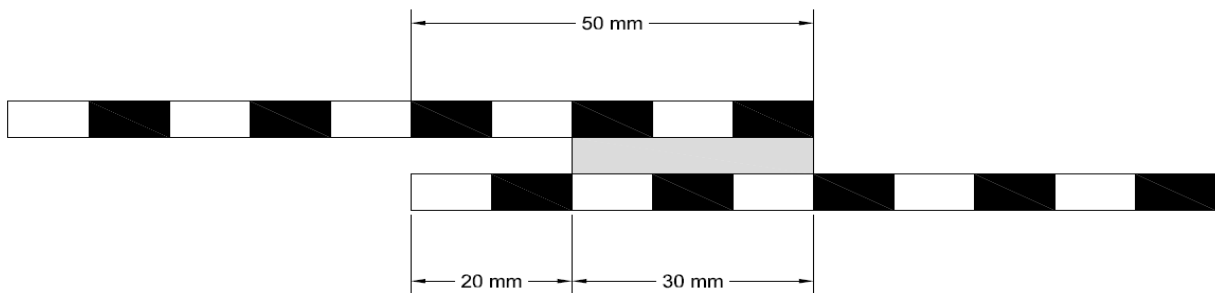

Figure 1
- b. If a single weld joint system is being adopted then the membrane overlapping should be 50 mm in width with at least 30 mm welded section (Figure 1).